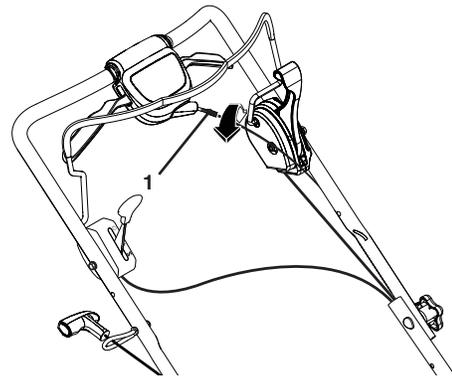

Figure 11
2. Rotate turnbuckle on drive control to increase drive speed (Figure 11).